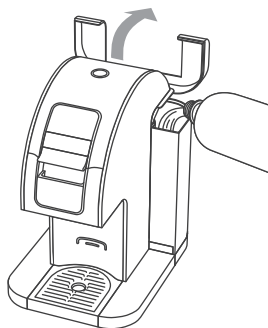

Fig. 14
1. Open the Water Tank Lid and pour water directly into the Water Tank up to the MAX Fill Line while the Water Tank is still attached to the brewer. (Fig. 14)